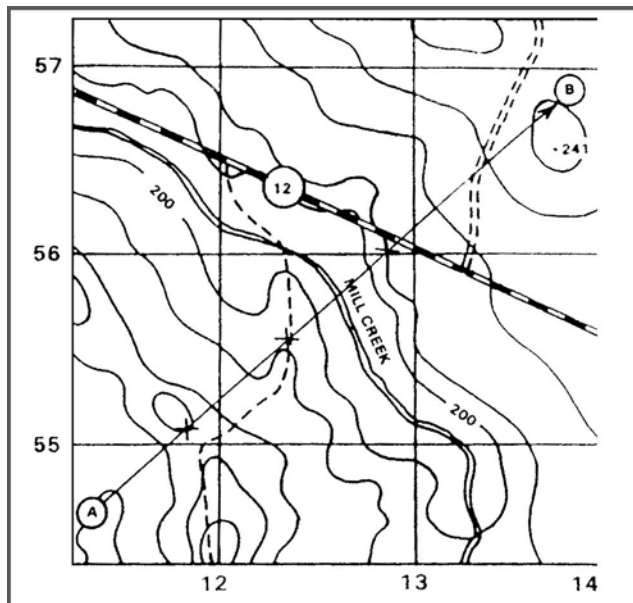

Figure 1. Straight-line route.
- b. In using association, you first locate your position on the map, then locate your destination or objective. It will seldom be the best way to travel. For example, look at Figure 1. Assume that you are to move from point A to point B. You see that a straight line could cause you to climb several small ridges and valleys (the "X"s on Figure 1).